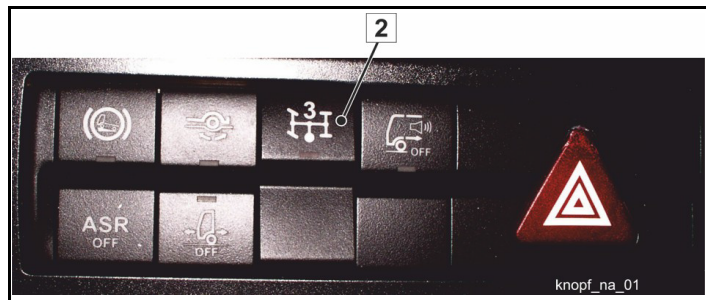

Fig. 113 Cab switch
In the cab of your vehicle, there is a switch with a symbol like in position (2) (**Fig. 113**).